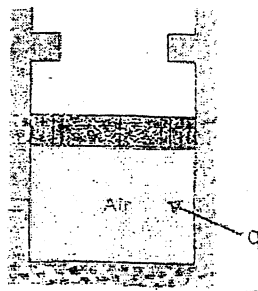

Figure P.9
9. Air (2 kg) is contained in a vertical frictionless piston-cylinder device shown in Figure P.9. The mass of the piston is such that the air has a pressure and temperature of 10.0 MPa and 75.5°C. There is a heat transfer to the cylinder until the piston reaches some stops, at which point the total volume is 0.04 m3. There is an additional heat transfer to the air until the pressure is 15.0 MPa. Determine the total heat transfer and the total work, and show the process on P-v and T-v diagrams. [ $R = 287 \text{ J/kg.K}$ ,  $c_v = 718 \text{ J/kg.K}$ ] [10]